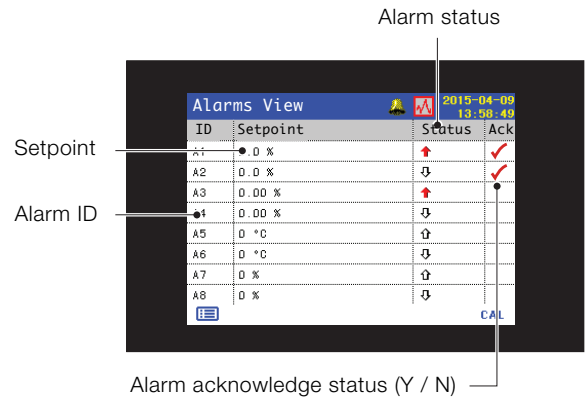

Fig. 31 Alarms view
- *Alarms view* – displays a list of alarms identified by priority (sequence number), source and status (see Fig. 31)